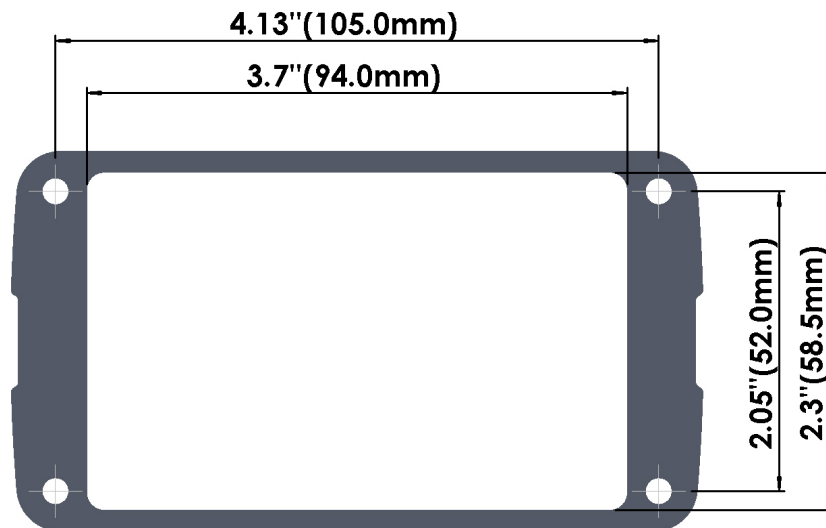

Fig. 3 Joystick Controller Gasket Template
2. Make use of the foam gasket to mark mounting holes and rectangular hole (3.7 inch by 2.3 inch or 94mm by 58mm) on flat surface. Drill rectangular hole position for installation as Fig. 3.